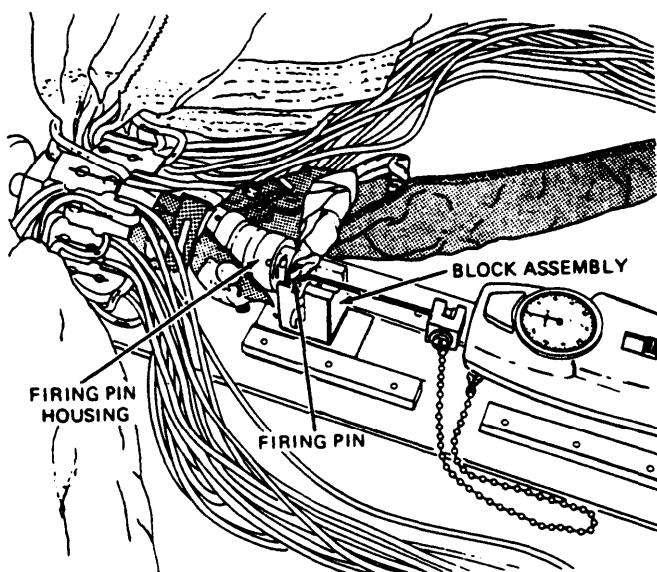

Figure 2-25.—Spreading gun installation.
9. Open the four snap fasteners on the spreading gun extractor sleeve to expose the firing pin housing. Slide the block assembly at the center of the test fixture under the firing pin housing until the block assembly pin slides into the baseplate hole. Align the firing pin so that the hole in the firing pin is horizontal. The firing lanyard is located at the top. (See figure 2-25.)